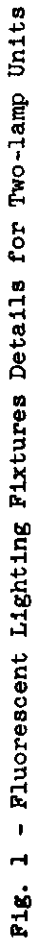

Fig. 1 - Fluorescent Lighting Fixtures Details for Two-lamp Units
- 1.03 Part 2 of this section is called "Replacement Parts". Associated Figs. 1 to 3 and Tables A and B cover the different parts with manufacturer's part numbers and corresponding names.
- 2.01 The Associated Figures 1 to 3 show the various replacement parts in their proper relation to other parts of the apparatus with their corresponding names.